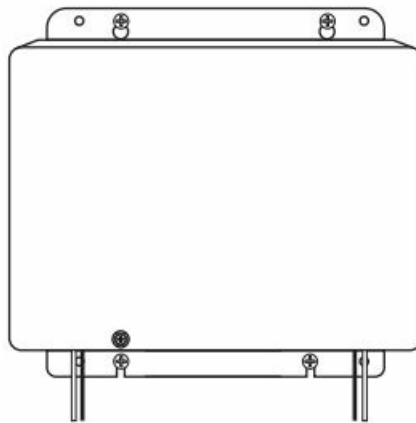

Figure 6
8. Use a screwdriver to install the metal cover on the front of the transformer.(Figure 6)